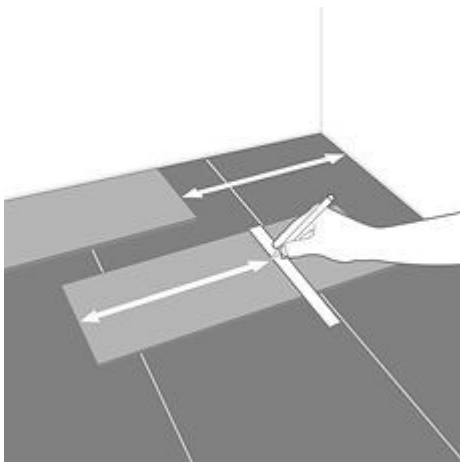

Figure 3
- 5.** For the last piece, measure the last plank to ensure a tight fit to the wall. Then cut away the marked piece and fit the end panel in the same way as the previous panels. When cutting the panel with a utility knife, make sure that you cut through the wear layer before breaking the panel (**Fig 3**).